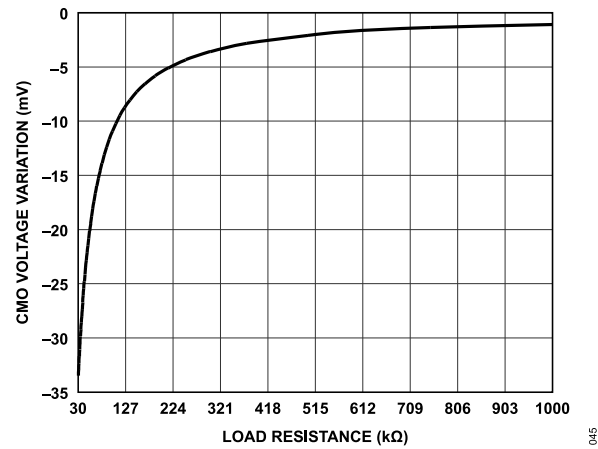

Figure 47. CMO Voltage Variation vs. Load Resistance
- ▶ If the external load on a CMO_{ChX} pin exceeds 30μA ($R_L < 45k\Omega$). For the typical load regulation information, see Figure 47.